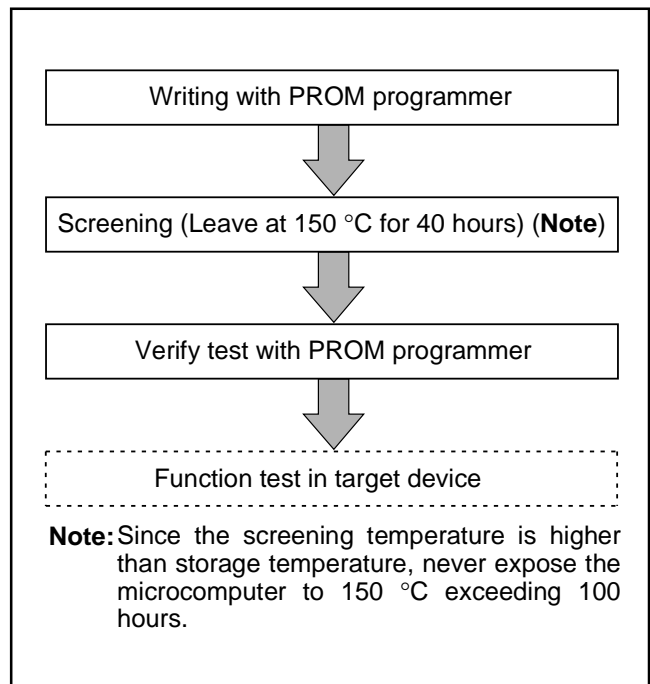

Fig. 55 Flow of writing and test of the product shipped in blank
(2) Notes on handling
- ① A high-voltage is used for writing. Take care that overvoltage is not applied. Take care especially at turning on the power.
- ② For the One Time PROM version shipped in blank, Renesas corp. does not perform PROM writing test and screening in the assembly process and following processes. In order to improve reliability after writing, performing writing and test according to the flow shown in Figure 55 before using is recommended (Products shipped in blank: PROM contents is not written in factory when shipped).